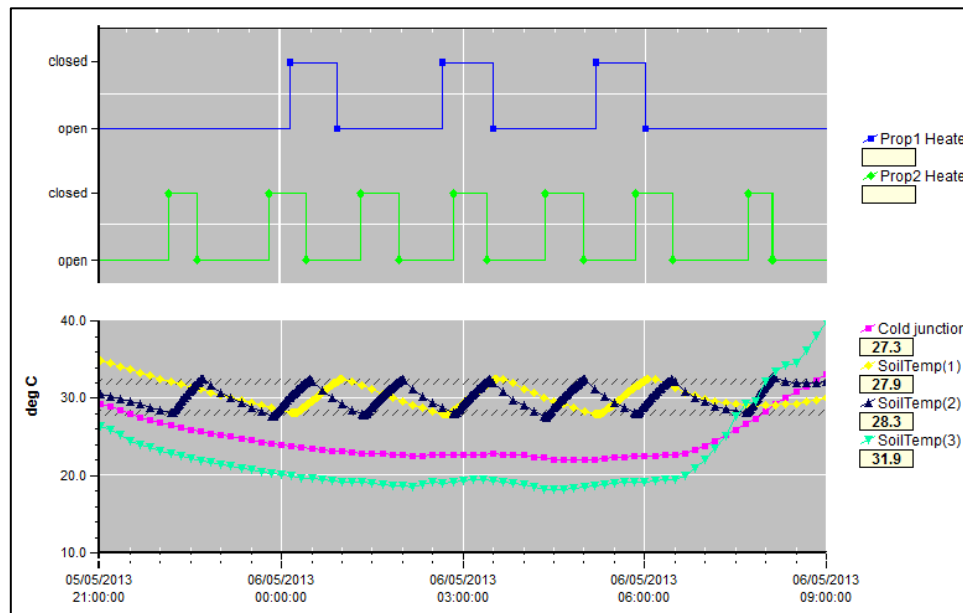

Fig. 2 – DeltaLINK screenshot showing the GP2 controlling the soil temperature in two propagators by switching heaters on and off.
Figure 2 shows a DeltaLINK screenshot of propagator temperature and heater control data showing the 'ambient' temperature as indicated by 'Cold junction' (within the GP2) and SoilTemp(3) from the SM300 located in the plant pot on the adjacent flood tray, as shown in Figure 5. The propagator's soil temperature ST4 sensor data, SoilTemp(1) and SoilTemp(2), shows that the temperatures in each of the propagators remained within the minimum daily temperature target range of 28 and 32°C due to the simultaneous heater control provided by the GP2. Over the same period the 'ambient' temperature fell below 20°C. It can also be seen that the heater of propagator 2 operated over twice as often as the heater of propagator 1, this was due to the propagator 2 not having the transparent cover fitted which increases heat losses. As a result the rate of cooling in propagator 1 was approx. 1.5 times slower than that of propagator 2.